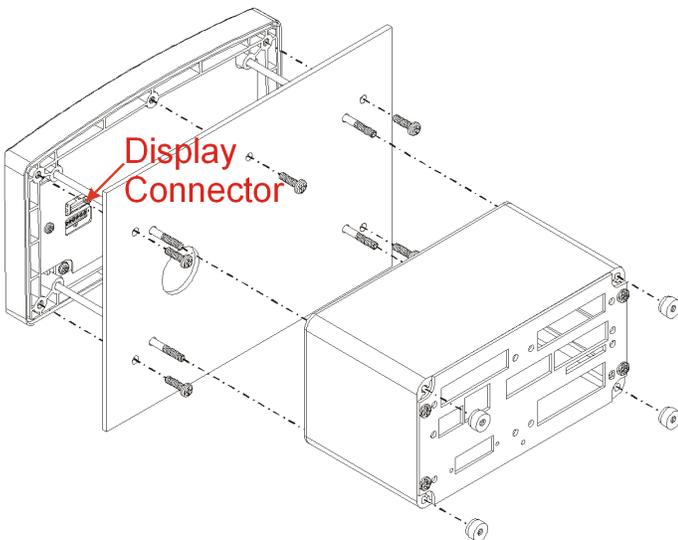

FIG. 3 PANEL MOUNT INSTALLATION
- Step 3. Use a phillips head screwdriver and install the five (5) 6-32 x 1/2 inch screws that fasten the bezel to the panel. (See Fig. 3) Use a torque screw driver and torque each screw to 10 inch/pounds. **DO NOT OVERTIGHTEN!**
- Step 6. Put the Display cable and connector through the 1.25-inch hole in the panel door or cover and plug the display connector into the display header in the bezel. (See Fig. 3)
- Step 7. Gently slide the electronic enclosure onto the threaded rods while making sure the display cable glides easily into the enclosure and does not kink. Move the electronic enclosure toward the panel until it stops. (See Fig. 3)
- Step 8. Thread the four (4) 6-32 thumb screws onto the threaded rods until tight. Do not use pliers on the thumb screws.